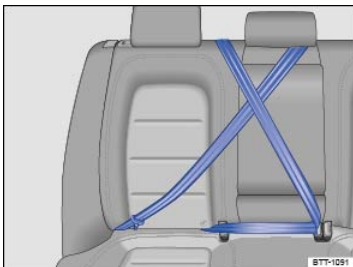

Fig. 38 Keep unused safety belts away from children in child restraints.
You must take special precautions when installing a LATCH/UCRA child restraint behind the front passenger or driver seats. Always route the center safety belt and the unused safety belt for the seating position where the child restraint is being installed securely out of the child's reach. Securing the safety belts will help prevent a child from playing with an unused safety belt and becoming entangled with it → Fig. 38.
- Route the safety belt around the head restraint for the center seating position ⇒ Fig. 38.
- Buckle the safety belt ⇒ Fig. 38.
You must take special precautions when installing a child restraint with the vehicle safety belt or with LATCH/UCRA lower universal anchorages behind the front passenger seat or behind the driver seat. Always route the center safety belt and the unused safety belt for the seating position where the child restraint is being installed securely out of the child's reach. Securing the safety belts will help prevent a child from playing with an unused safety belt and becoming entangled with it ⇒ *Using a child restraint on the rear seat* , ⇒ *Fig. 38*.
You must take special precautions when installing a child restraint with the vehicle safety belt or with LATCH/UCRA lower universal anchorages behind the front passenger seat or behind the driver seat. Always route the center safety belt and the unused safety belt for the seating position where the child restraint is being installed securely out of the child's reach. Securing the safety belts will help prevent a child from playing with an unused safety belt and becoming entangled with it → Using a child restraint on the rear seat , → Fig. 38.